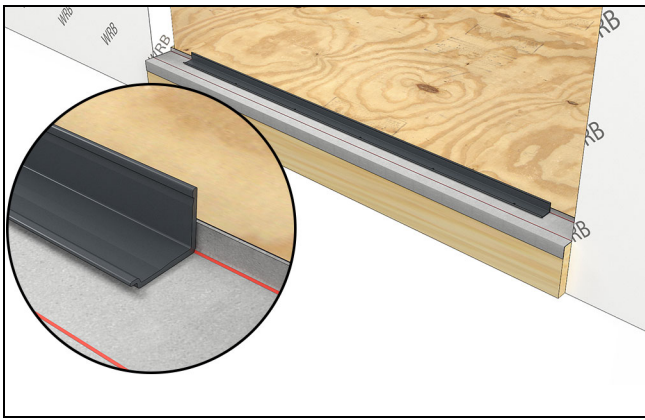

Figure 6
2. Center the sill support on the rough opening sill oriented with the upturned leg to the interior. Align the interior edge of the sill support on your mark/laser line. See Figure 6.